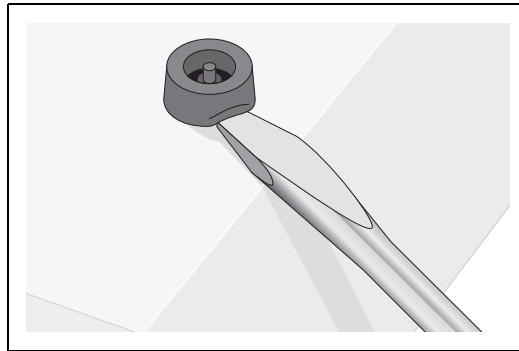

Figure 30. Removing the Feet
2. Using a flat-head screwdriver, remove the snap-on plastic feet from the bottom of the switch, as shown in Figure 30.